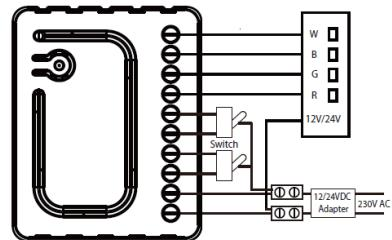

Figure 4. Connecting conductive connector
4. According to the Figure 4, you can use the 18AWG copper wire and conductive connector to extend the connection of the power supply.